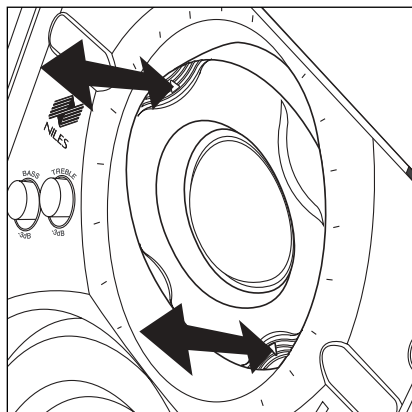

Figure 19
3. Pivot the tweeter on both speakers equally by depressing the housing at the arrows until the desired angle is achieved (See Figure 19).